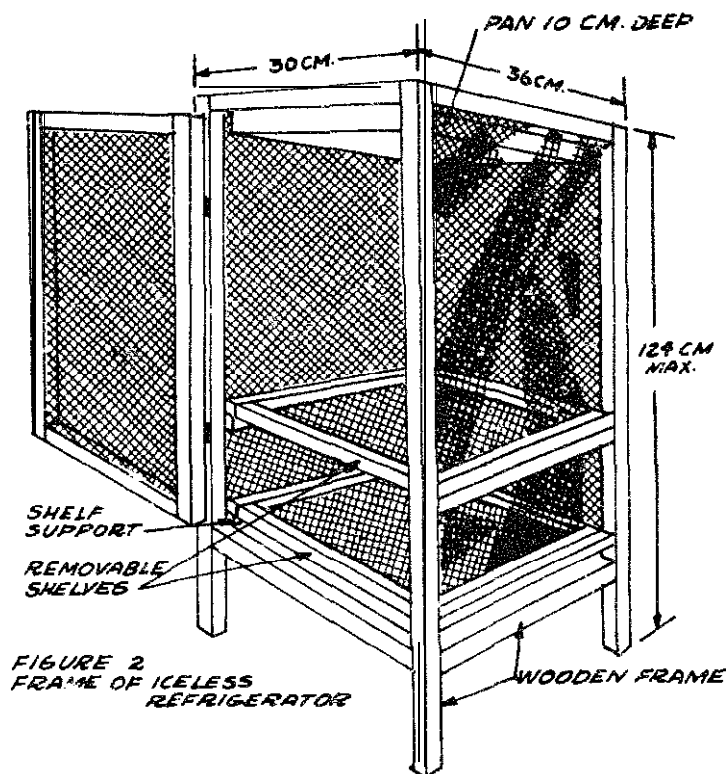

FIGURE 2
**Make** the wooden frame to lit the **upper** pan (see **Figure 2**). This might **be** the bottom of a discarded **20-liter (5-gallon)** oil can. The tip of the pan **fits** over the top of the frame to keep the pan from **falling** into the compartment. Hinge the door carefully so that it swings **easily**, and make a simple wooden or thong latch. Paint or **oil all** the wooden parts. The upper and lower pans should **also be**